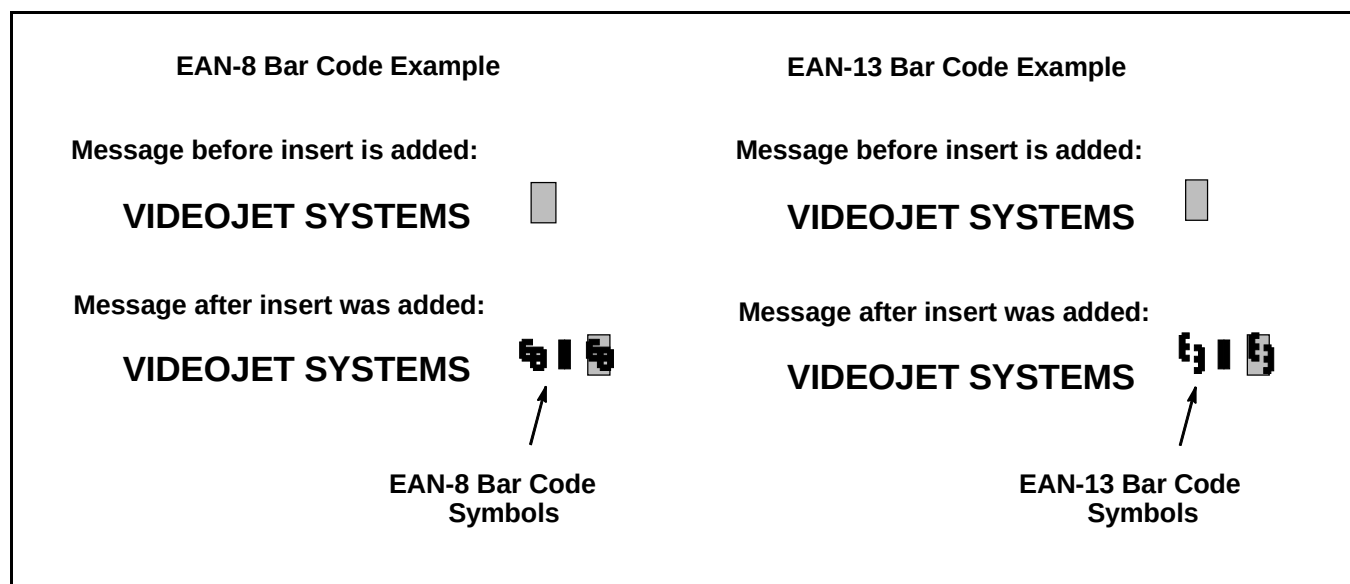

Figure 6-51. Messages with Bar Code Inserts
- To insert an EAN-13 bar code, press **F2** to select <INSERT EAN-13>. Three EAN-13 bar code symbols will appear in the message. Refer to Figure 6-51.
- To insert an EAN-8 bar code, press **F3** to select <INSERT EAN-8>. Three EAN-8 bar code symbols will appear in the message. Refer to Figure 6-51.